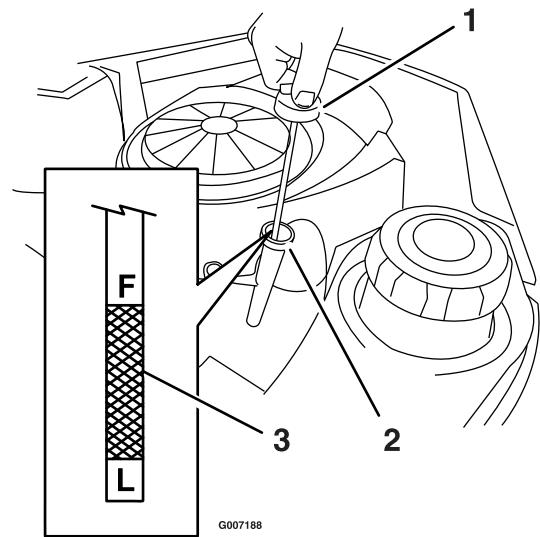
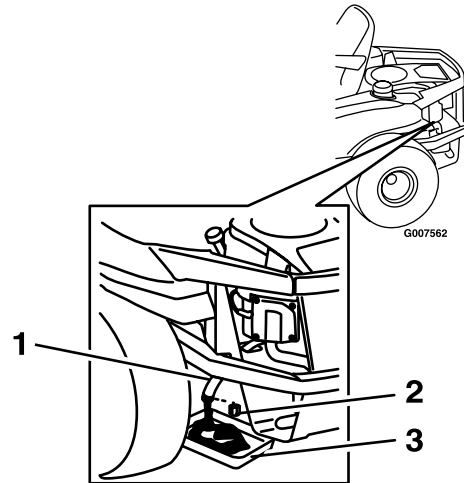

Figure 25
Figure 27
4. Pull and remove the oil fill cap/dipstick; wipe oil off. Reinsert the dipstick and push firmly into place (Figure 25).
5. Clean the area around the drain plug and on the machine frame. Place a pan underneath machine directly below the drain hole in the frame as shown in Figure 27
6. Remove the oil drain plug (Figure 27). Remove the oil fill cap/dipstick (Figure 25).
9. When the oil has drained completely, install the oil drain plug. Tighten the plug to 14 N-m (125 in-lb) torque. Wipe up any excess oil on the frame (Figure 27).
11. Install the replacement oil filter to the mounting pad. Turn the oil filter clockwise until the rubber gasket contacts the pad, then tighten the filter an additional 1/2 to 3/4 turn (Figure 27).
14. Check the oil level (Figure 25); refer to the Checking the Oil Level section.